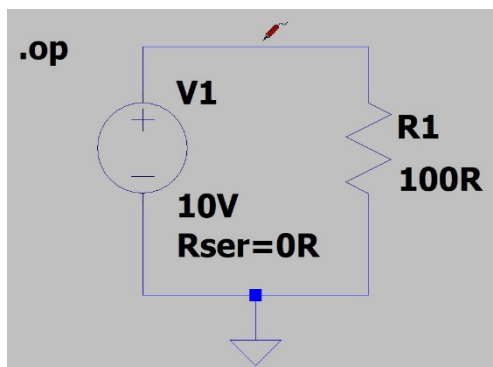

Figure 3: Placing a bias probe on a wire
- 15) Place the text **.op** that appears to the left of the schematic as shown in Figure 3, and click the left mouse button. This invokes Bias point (or operating point) analysis.
- 19) Move the cursor, which should have the shape of a small cross (if not, click the right mouse button or press the ‘Esc’ key), close to any wire that is not connected to the signal ground, and click and hold the left mouse button. Whilst holding the left mouse button, the cursor changes into a measurement probe as displayed in Figure 3.